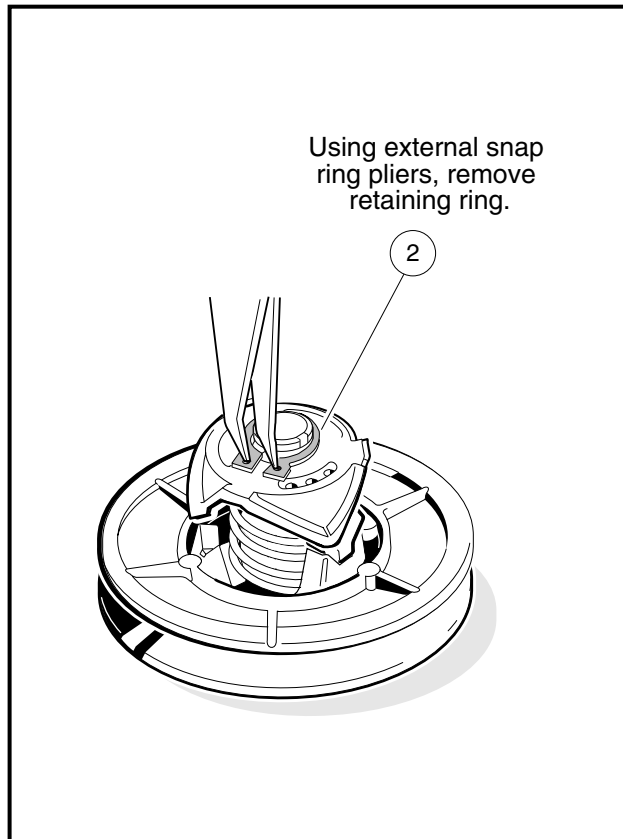

Figure 17-17 Remove Retaining Ring
1. Use external snap ring pliers to remove the retaining ring (2) (**Figure 17-17, Page 17-15**). See following **WARNING**.